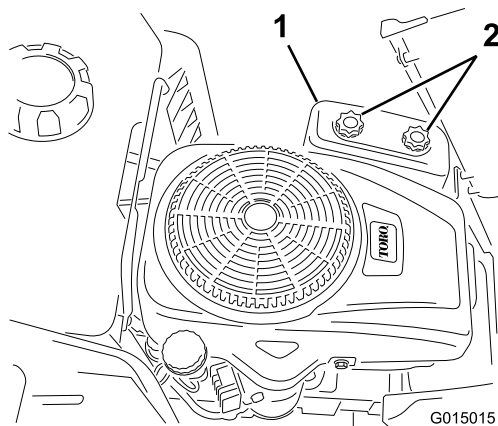

Figure 32
4. Remove the air-cleaner cover by unscrewing the 2 knobs (Figure 32).
- 3. Install the air-cleaner cover, and tighten the 2 knobs (Figure 32).